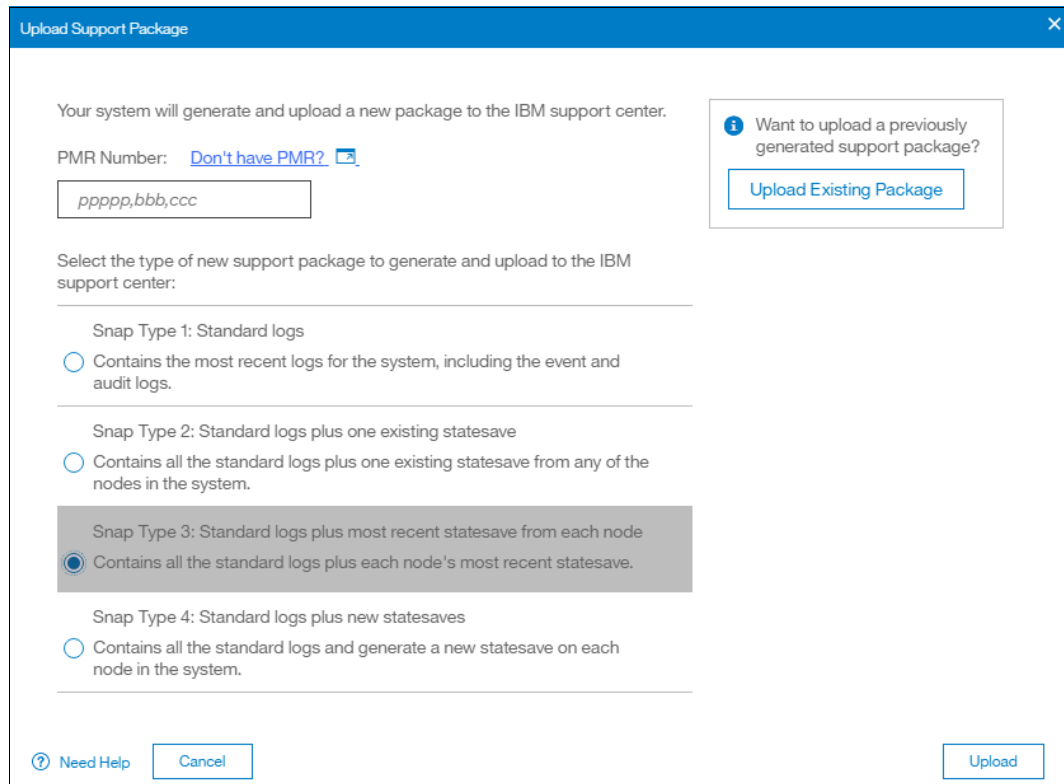

Figure 7-74 Upload Support Package window
- The Upload Support Package window provides four options for data collection. If you have been contacted by IBM Support due to your system calling home or you have manually opened a call with IBM Support, you will have been given a *PMR number*. Enter that PMR number into the **PMR** field and select the snap type, often referred to as an *option 1, 2, 3, 4 snap*, as requested by IBM Support (Figure 7-74). In our case, we enter our PMR number, select snap type 3 (option 3) because this will automatically collect the statesave created at the time the node restarted, and click **Upload**.